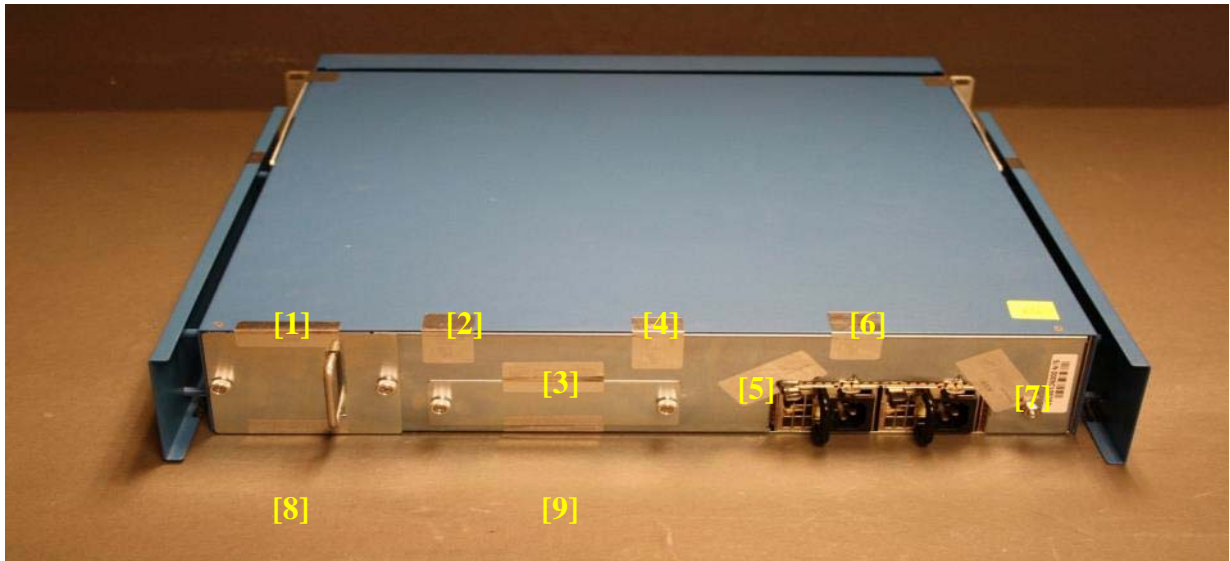

Figure 45 - PA-5000 Series Rear Tamper Seal Placement (9) with opacity shields
Refer to Appendix G for instructions on installation of the tamper seals and opacity shields for the PA-5000 series. The locations of the seventeen (17) tamper evident seals implemented on the PA-5000 Series modules are shown in Figure 45 through Figure 47.